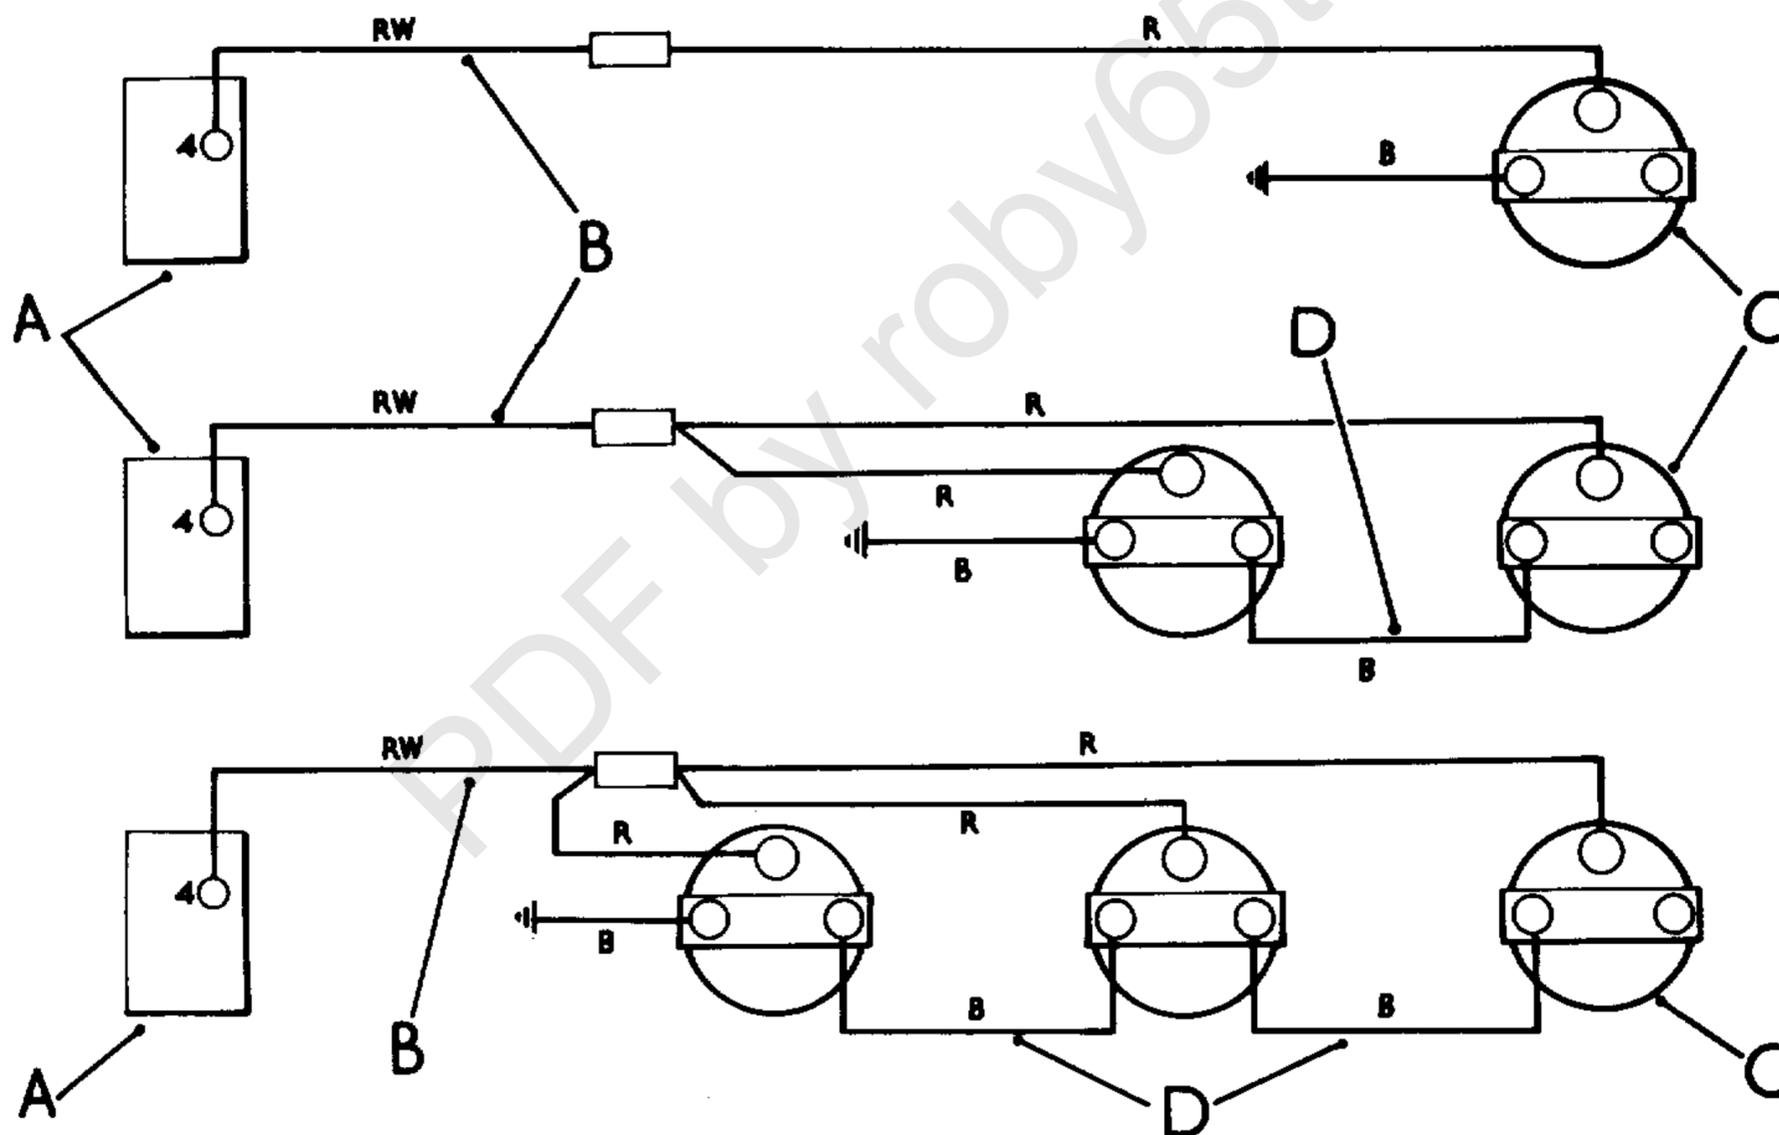

Fig.4. Electrical circuit for instrument illumination (showing alternatives for single, double or triple instrument installations)
24. If more than one instrument is fitted in the front of the parcel tray, connect the instrument illumination circuit as illustrated in Fig.4, using lead 528920.
27. Using cleat 240429 (4) clip the oil transmitter lead to the main harness in the engine compartment.